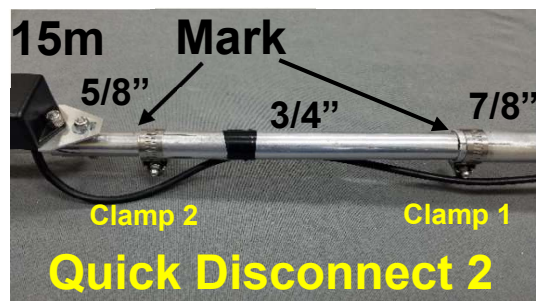

FIGURE 134
STEP 18.2 Disconnect section 4 from the 3/4" tube extension [attached to section 3], by 1st loosening section 3 clamp 1 and section 4 clamp 2, as shown in **FIGs 4 and 134**. Place a mark on the 5/8" tube at the end of the 3/4" slotted tube of section 4 clamp 2 and a mark on the 3/4" tube at the end of the 7/8" slotted tube of section 3 clamp 1, as shown in **FIG. 134**. This Mark will aid in reassembling for transport.